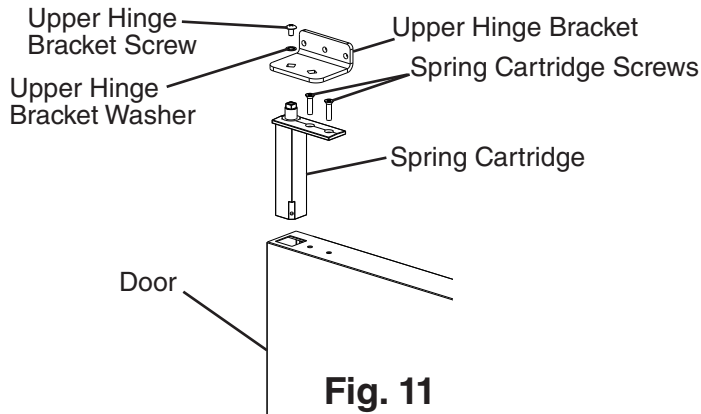
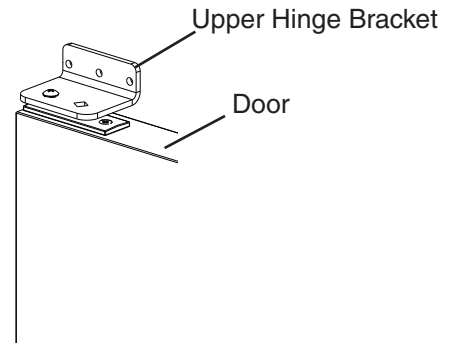

Fig. 11
Fig. 12
- 8) Clear foam from the spring cartridge hole to allow for spring cartridge installation. Install the spring cartridge and secure it to the door using the spring cartridge screws removed in step 6. See Fig. 11. Next, align the upper hinge bracket to the door in the orientation that allows for closed door installation. See Fig. 12. Secure the upper hinge bracket to the door using the screw and washer removed in step 6.